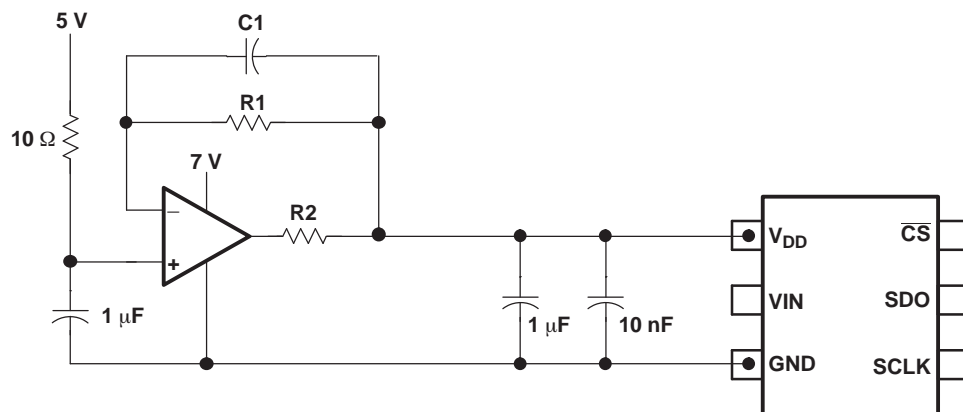

Figure 24. Buffering with the OPA735
- A low-pass filtered version of the system supply followed by a buffer such as the zero-drift OPA735 can also be used in cases where the system power supply is noisy. Care should be taken to ensure that the voltage at the V_{DD} input does not exceed 7 V (especially during power up) to avoid damage to the converter. This can be done easily using single supply CMOS amplifiers like the OPA735. Figure 24 shows one possible application circuit.